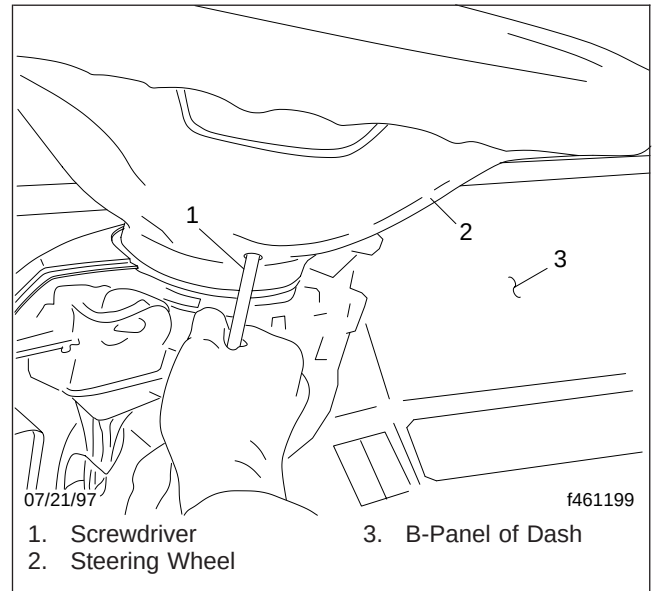

Fig. 1, Loosening the Air Bag Retainer Screws
3. Loosen the retainer screws underneath the steering wheel; see Fig. 1.